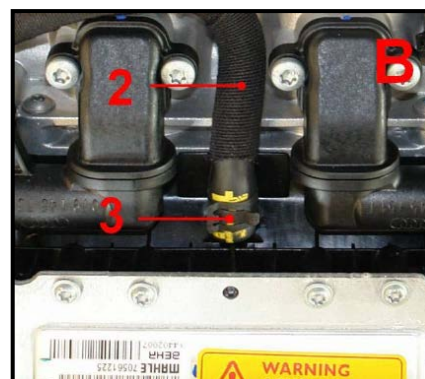

Figure 8. Hose clip (3).
2. Replace hose clip (Figure 8).